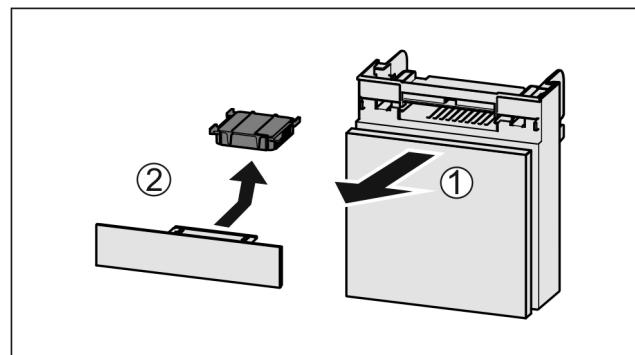

Fig. 101
- ▶ Pull out the compartment Fig. 101 (1).
- ▶ Remove the carbon filter Fig. 101 (2).